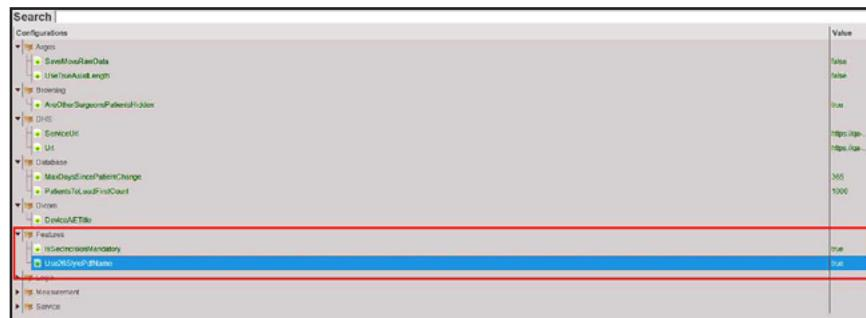

Figure 2-31 Vision Planner > Config > Features
- 13.3 Set the option **Use23StylePdfName** to **true** (see *Figure 2-31*).